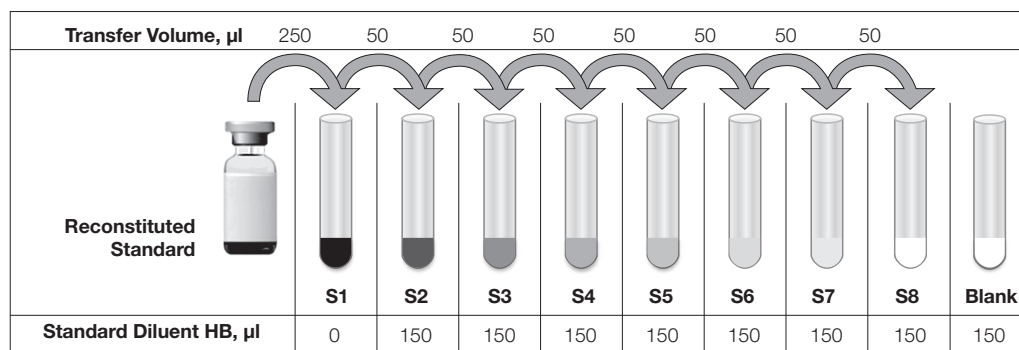

Fig. 3. Preparing a fourfold dilution series of human cytokine standards.
6. Add the specified volume of standard diluent HB to each tube (Figure 3).
8. Continue with 1:4 (fourfold) serial dilutions from tube S2 to S8 as shown in Figure 3. Use reconstituted and diluted standards immediately. Do not freeze for future use.